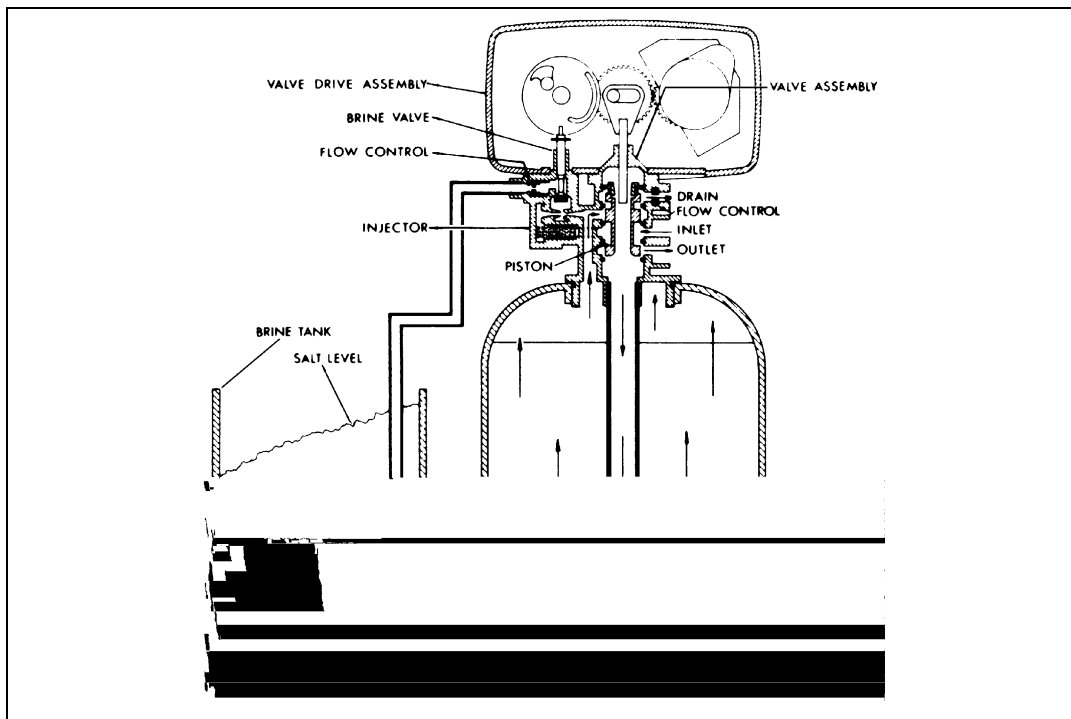

Figure 6: Backwash Position
- Same as *Figure 6, page 11* with standard piston.